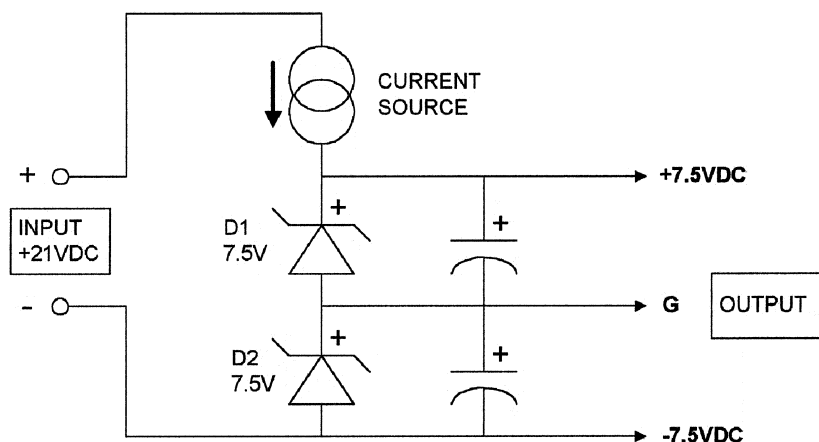

FIGURE 2: Simplified schematic (after change).
I am including third-order series CO equations, which I just found. Seems back in 2/88 I wrote a CO design program that designed the Butterworth third-order series CO. Referring to the schematics published with your letter, Fig. 2 (A) the third-order series: the top L to woofer is L1, the woofer input cap is C1, and the cap across the woofer is C2. For the tweeter the cap is C3, the input L is L2, and the L across the tweeter is L3. R_w is the woofer resistance, R_t is the tweeter resistance, f_c is the CO frequency, and $W_c = 2\pi f_c$.
the change, you will have a Zener-regulated power supply, with the Zeners fed by a current source, which makes very good sense. This supply will provide very cleanly regulated $\pm 7.5V$ DC at low current. If the load current is relatively constant, values can be calculated that result in minimal power dissipation by the Zener diodes (Fig. 2).